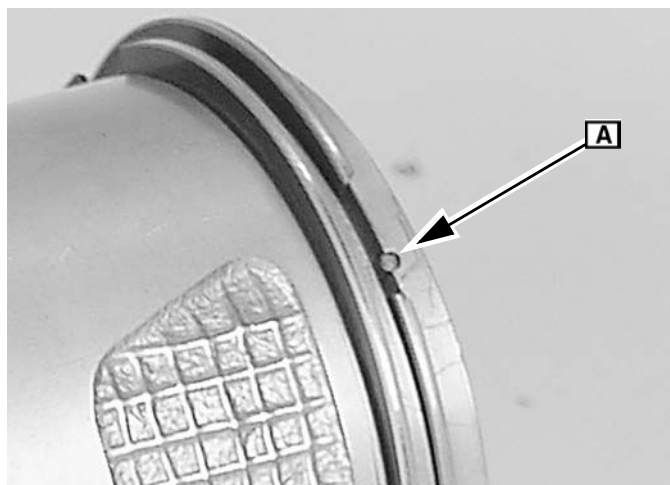

Fig. 62
2. Align ring gaps with retainers **A** in ring grooves (Figure 62).